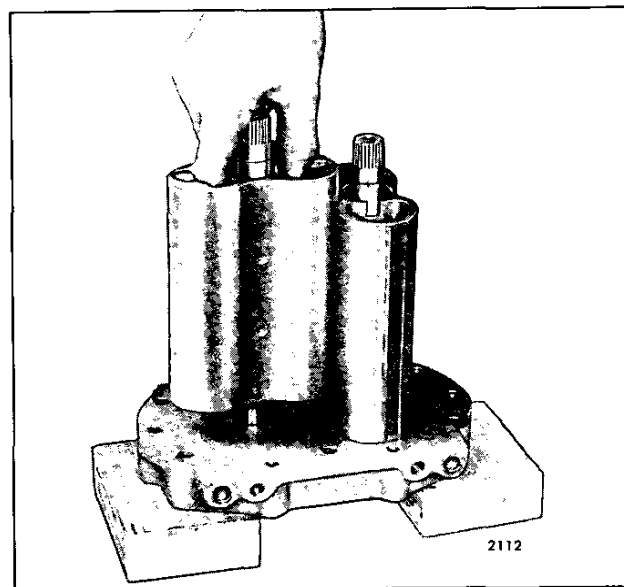

Fig. 13 - Installing Blower Rotors in Front End Plate
- Place the front end plate on two wood blocks. Then, install the rotors, gear end up, on the end plate (Fig. 13). On the former blowers, be sure that the ring type oil seals are properly positioned on the rotors.